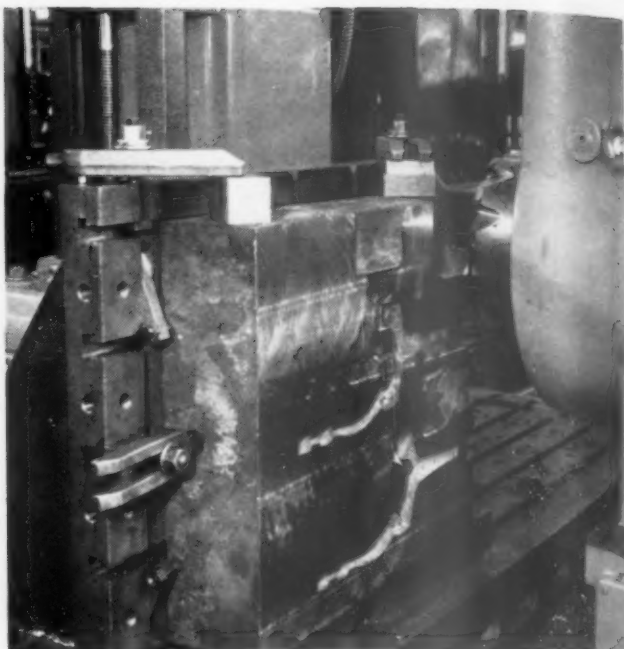

Fig. 9. Milling a used forging die block on bed-type machine. Material hardness, 400 Bhn plus additional hard spots. Cutting speed, 100 fpm.
The hardness of the workpiece material can be taken as an approximate index in arriving at preliminary estimates of feeds and speeds. Steel of 200 Bhn may be cut advantageously with a carbide cutter at a cutting speed of 400 fpm and a feed per tooth of 0.010 in. The same material heat treated to 300 Bhn would require a reduction in cutting speed to about 300 fpm and in feed to about 0.008 in. per tooth. When the hardness is increased to 400 Bhn the machining problem becomes more difficult (5). Not only is it necessary to decrease the cutting speed to about 140 fpm and the feed to 0.004 in. per tooth, but the machine requirements become more stringent. Resurfacing of used die-blocks requires bed type machines of highest rigidity operating at relatively low feeds and speeds. See Fig. 9. For economical use of carbide cutters, resharpening should take place when the cutter has worn 1/32 of an inch on the periphery. This can easily be measured by the operator with a scale. Attempts to run cutters beyond this point may cause more breakage and, in any case, will make regrounding more expensive with insufficient additional production to justify the increased expense.